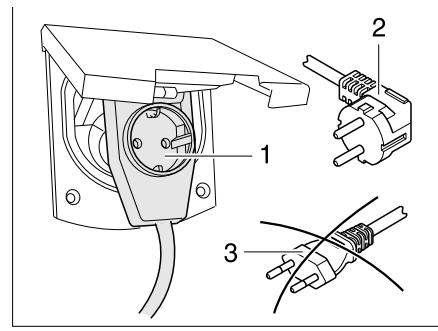

Fig. 298 Connecting an angled connector with socket
► When using a CEE 17 angled connector with rear socket (Fig. 298,1) only use a rubberised and sealed IP 44 socket with earth contact (Fig. 298,2). Do not use sockets without earth contact (Fig. 298,3). Danger of electrocution!